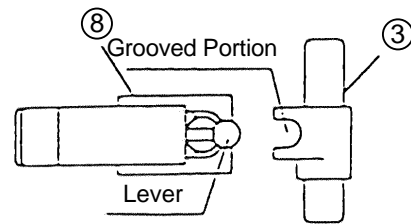

Fig. 16
- (d) Install the Push Button ③ so that it is properly aligned with the grooved portion and the lever of the Switch ⑧. (See Fig. 16)